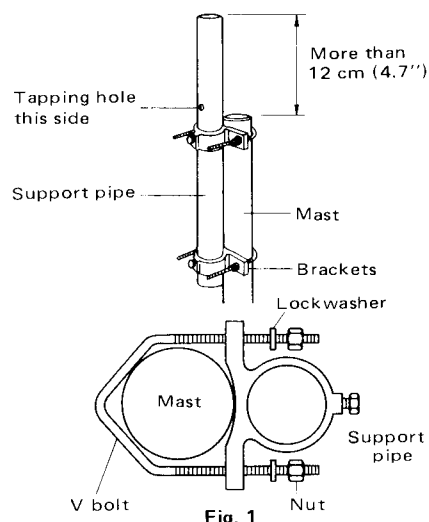

Fig. 1
1. Attach support pipe to a suitable mast with brackets as shown in Fig. 1. Tapping hole in support pipe should be placed above brackets and the hole should be
turned outside against the mast. Upper end of support pipe should be placed more than 12 cm (4.7") above the top end of the mast as shown in Fig. 1.